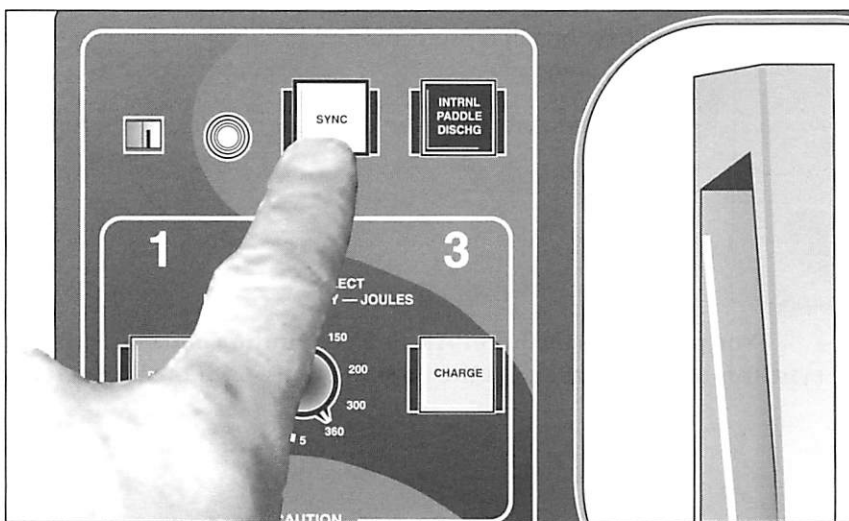

Figure 6-11. The LIFEPAK 6s SYNC button
- 5 With the LIFEPAK 6s turned on, press the LIFEPAK 6s SYNC button on the front control panel (Figure 6-11). The button lights when activated.